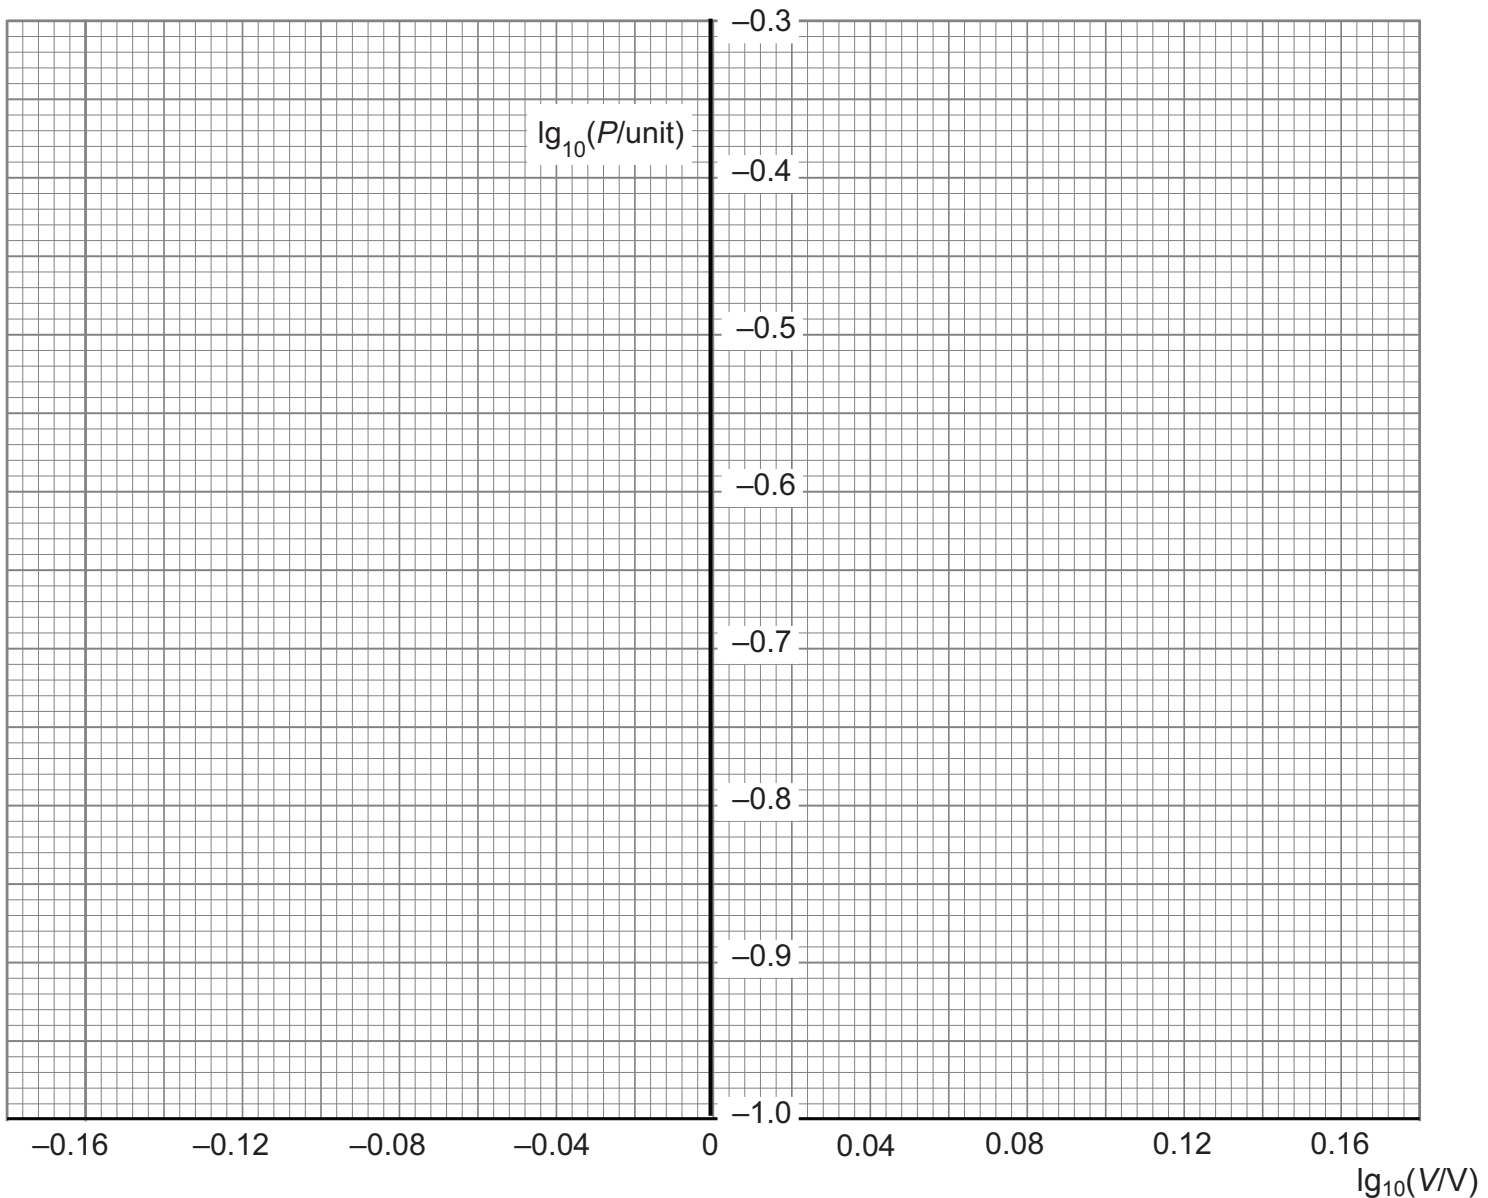

Fig. 2.2
- (iii) Plot the points on **Fig. 2.2** and draw the best fit straight line.
(v) Determine the percentage uncertainty in the value for B obtained in (iv) using your graph in **Fig. 2.2**.